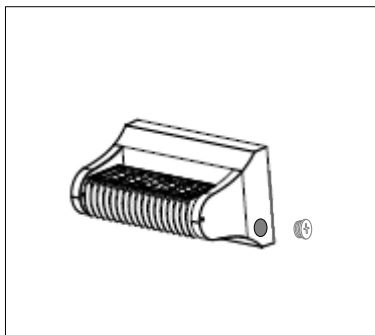

Figure 11
5. Remove the conduit plug from the side of the luminaire on which conduit will be mounted (see Figure 11)